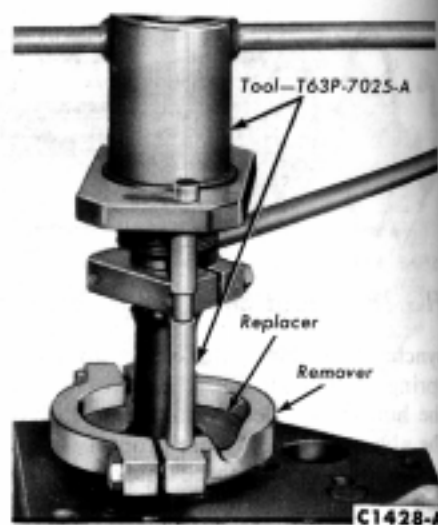

FIG. 23—Installing Output Shaft Rear Bearing
18. Install the large snap ring on the rear bearing. Place the bearing on the output shaft with the snap ring end toward the rear of the shaft. Press the bearing into place with the tool shown in Fig. 23. Secure the bearing to the shaft with a snap ring.